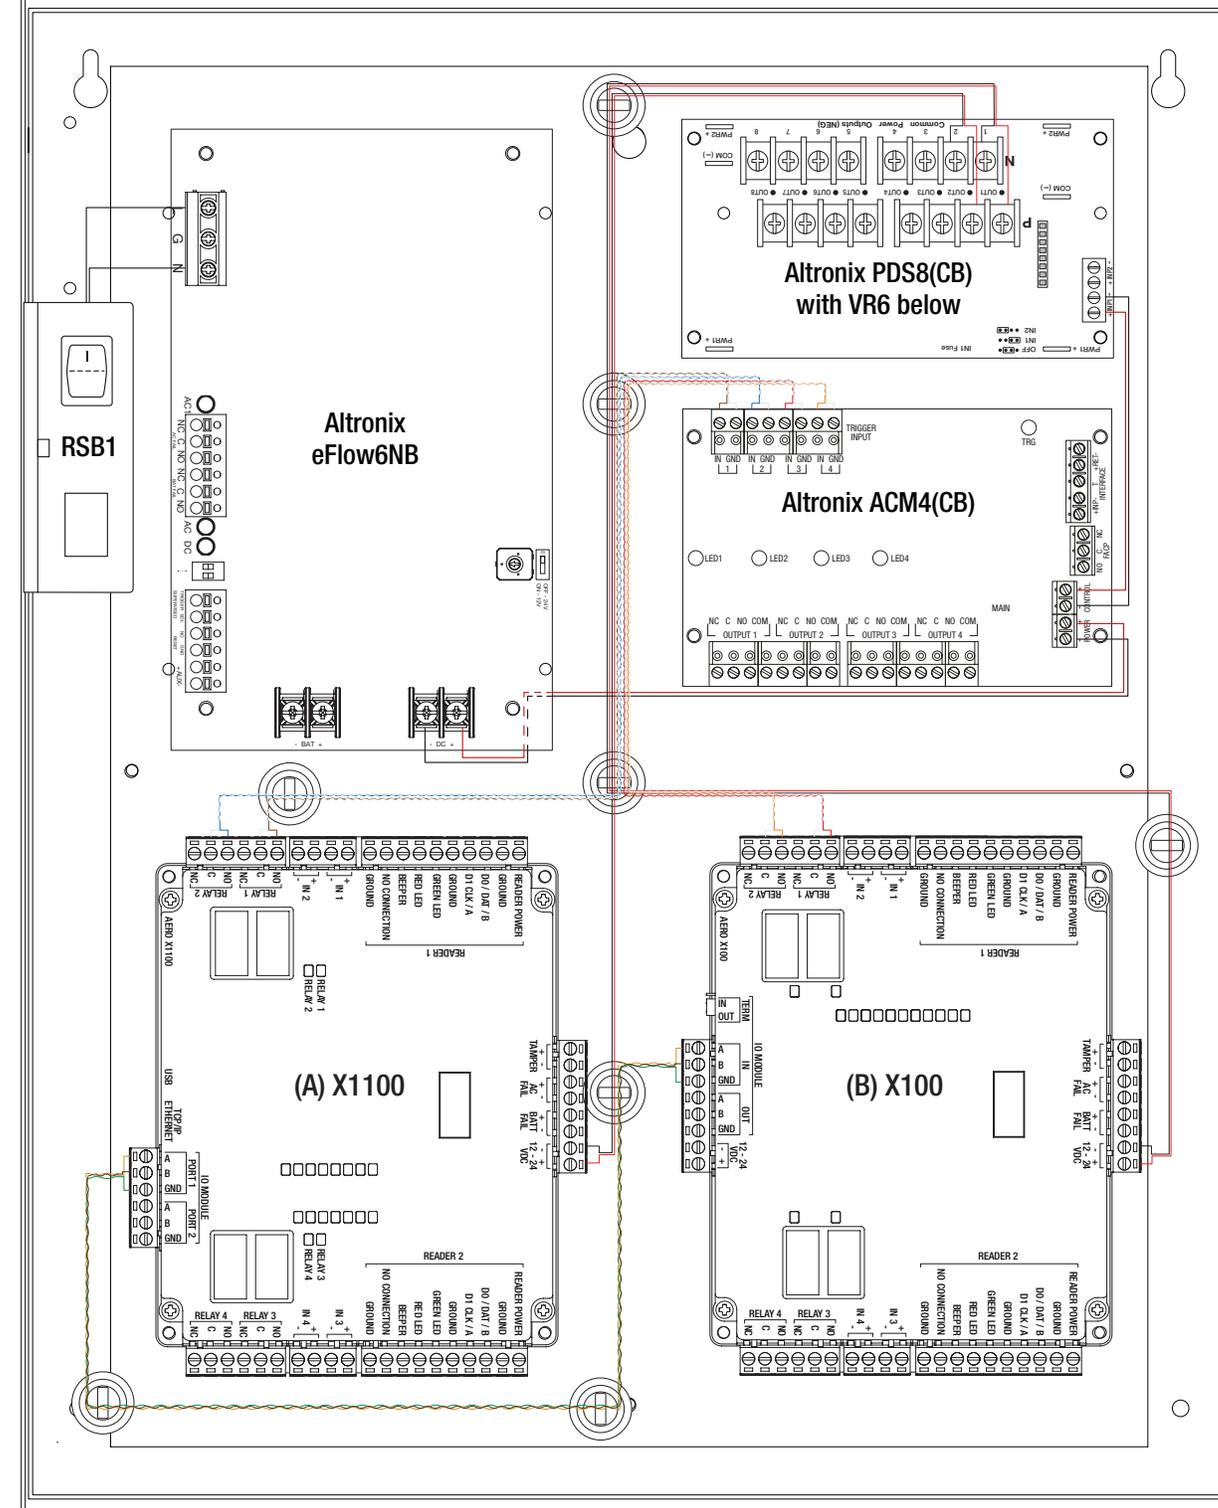

Fig. 2
1. Fasten spacers (provided) onto metal pems configuration (A), (B) of backplane (Fig. 2, pg. 3).